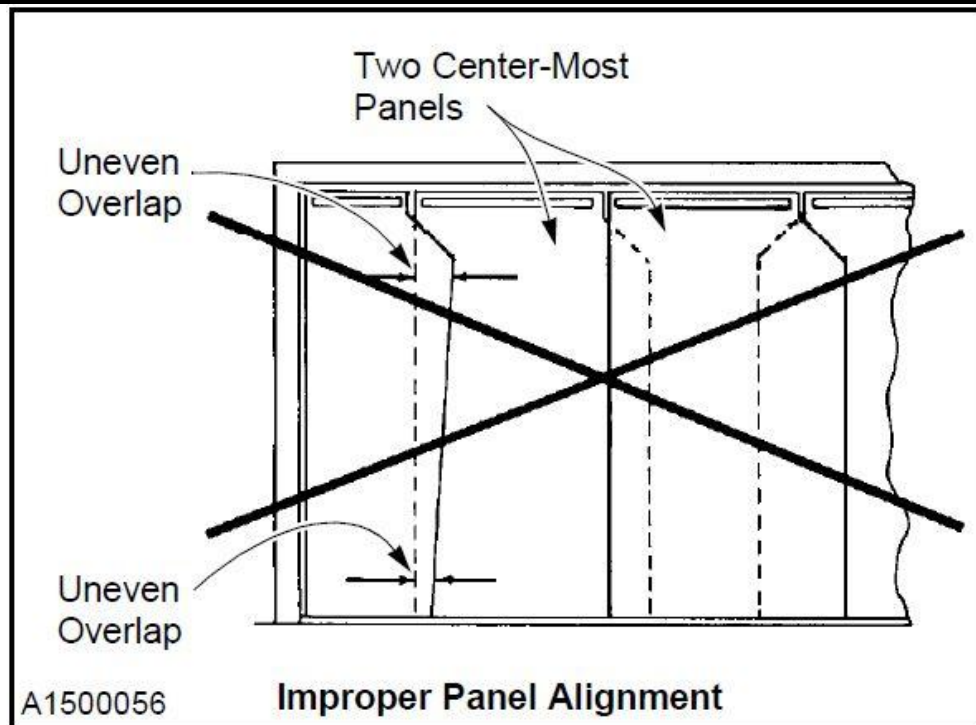

Figure 5
1. Stand far enough back from the door panel to visually inspect the overlap and alignment of the two center panels. They should both hang straight, with all overlaps even along the entire length of each adjoining panel. (See Figures 5 and 6.)